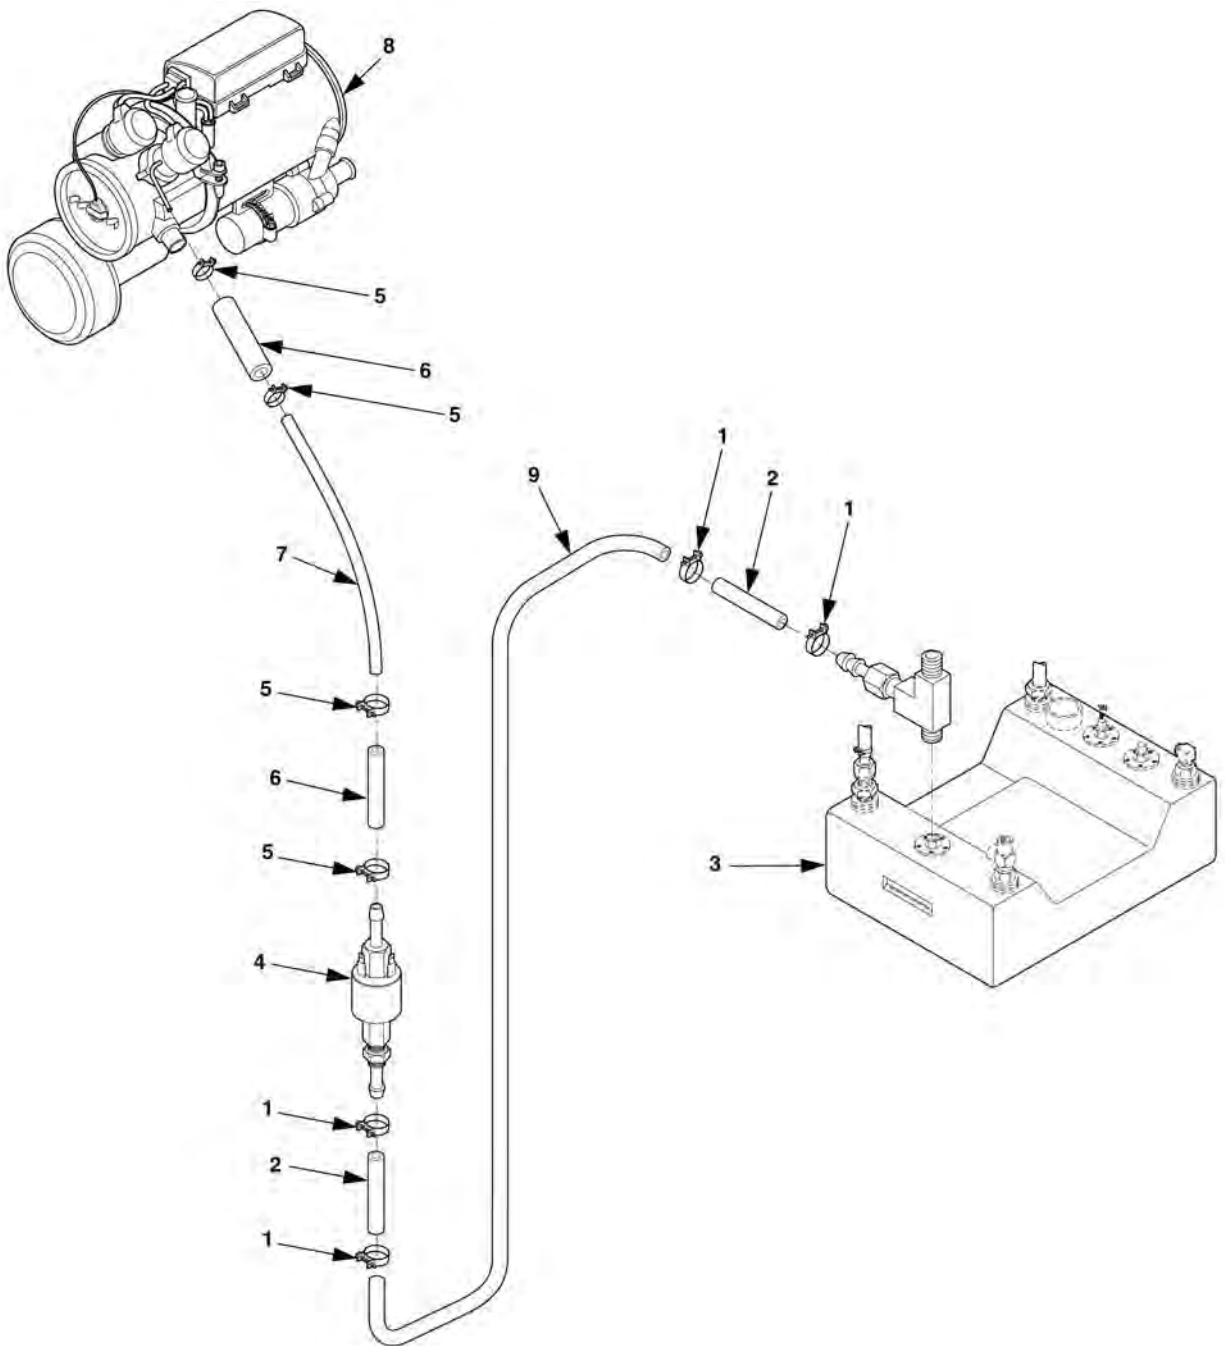

Figure 4-29. Fuel Line Maintenance.
1. Loosen screw clamps (1), Figure 4-29, to remove butt splices (2) and fuel line (9) between primary fuel tank (3), and fuel pump (4). Drain any fuel from line into a suitable container.
2. Loosen screw clamps (5) to remove butt splices (6) and fuel line (7) between fuel pump (4) and heater (8).